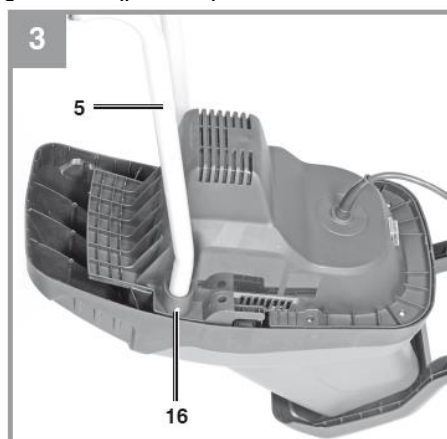

Fig. 3
Secure the frame as shown in Fig. 3 using screws (pos. 16).